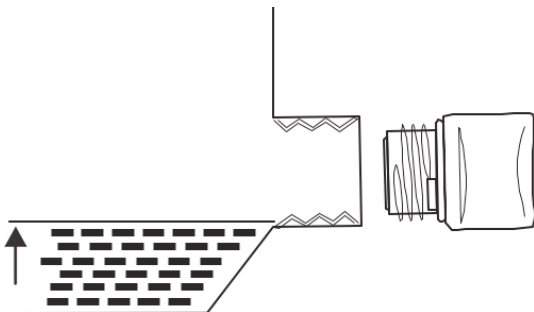

Figure 4: Engine Oil Correct Level
11. Using the supplied funnel and oil, pour the entire bottle of oil into the engine. See correct oil level in Figure 4 below.
- The engine is filled with engine oil (see Figure 4: *Engine Oil Correct Level* on page 11).